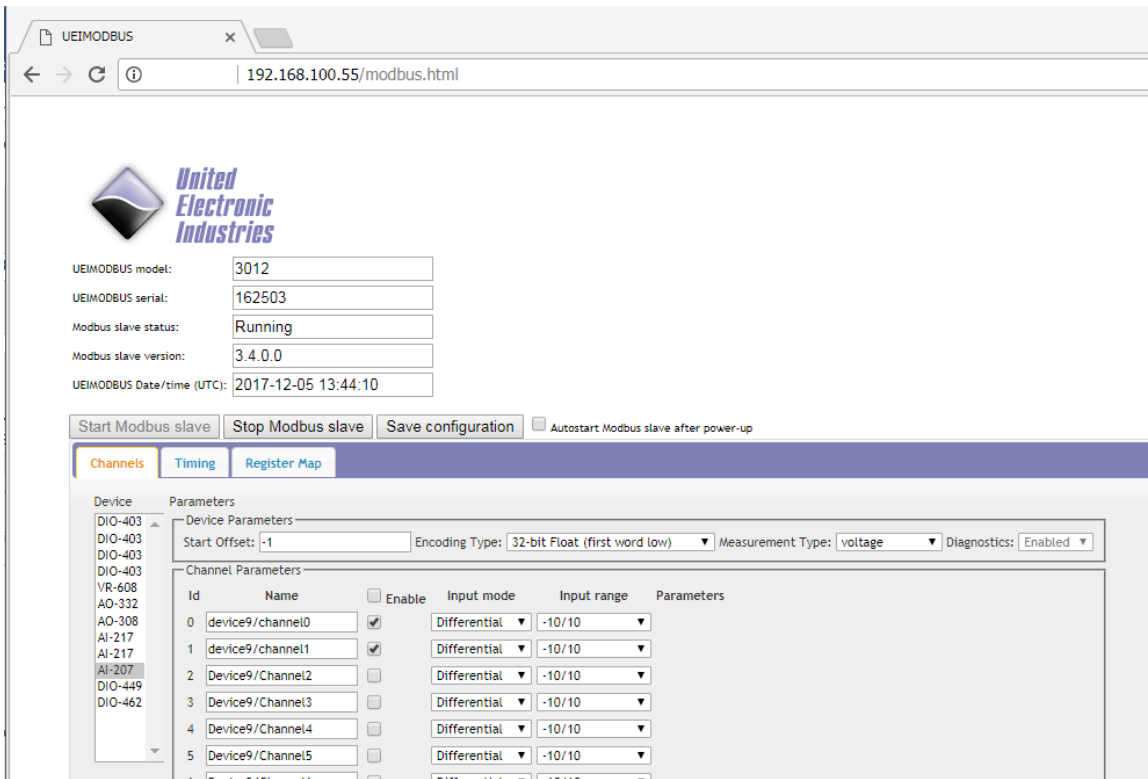

Figure 6 UEIModbus Channels Display
The UEIModbus I/O devices are listed under the **Channels** tab in the web UI display (see Figure 6 below).
- **Start Offset = -1:** All applicable MODBUS registers (Coil, Discrete Input, Input and/or Holding Registers) for this I/O device will have the register start address mapped to the I/O board position in the chassis (board in slot 0 will have the start address mapped to 0, board in slot 1 will have the start address mapped to 1000, board in slot 2 will have the start addresses mapped to 2000, etc.) See Figure 6.